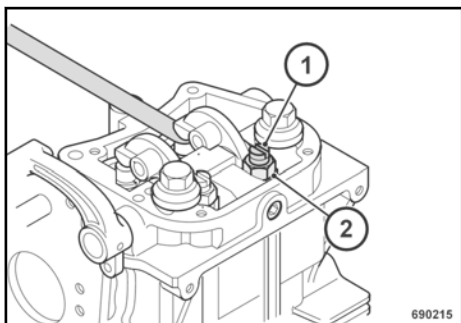

Fig. 55
Slightly slacken the counter nut (2) ↪ Fig. 55.